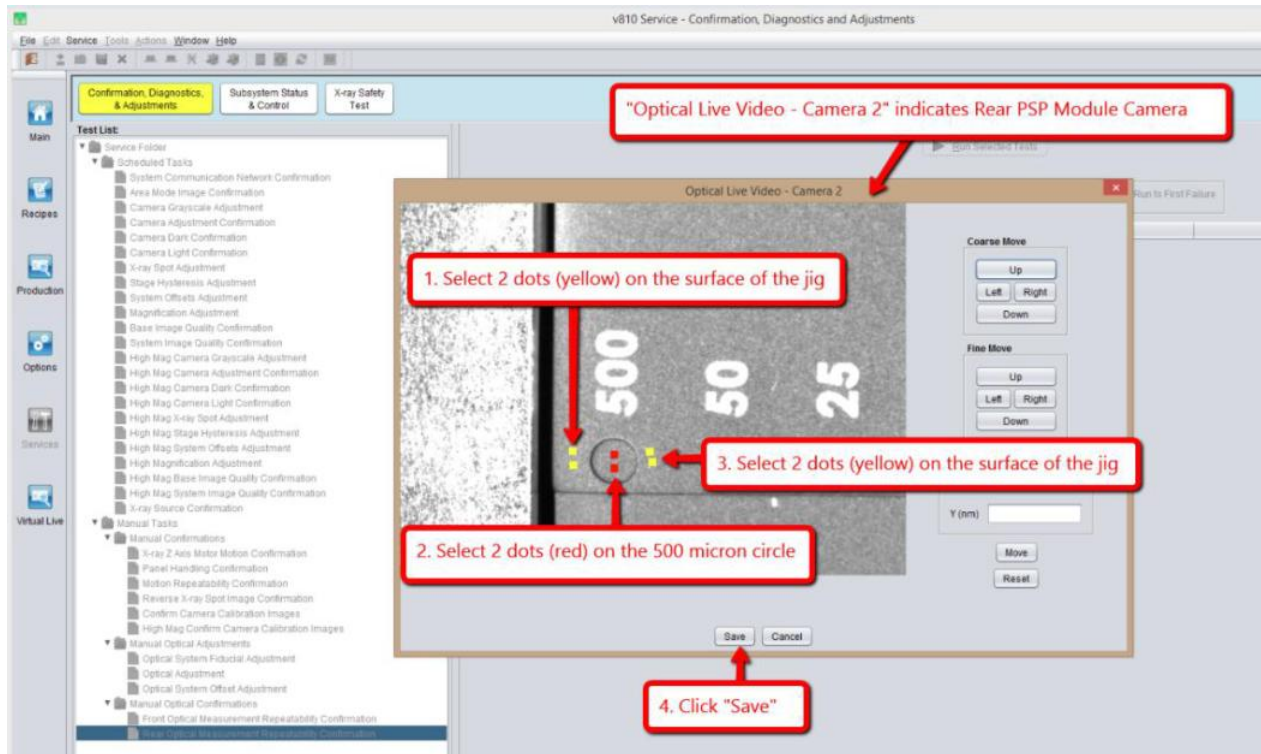

Figure 38 Adjustment Points
29. Select the points as indicated in Figure 38. Total of 6 points require to be select as shown in the Figure 38.